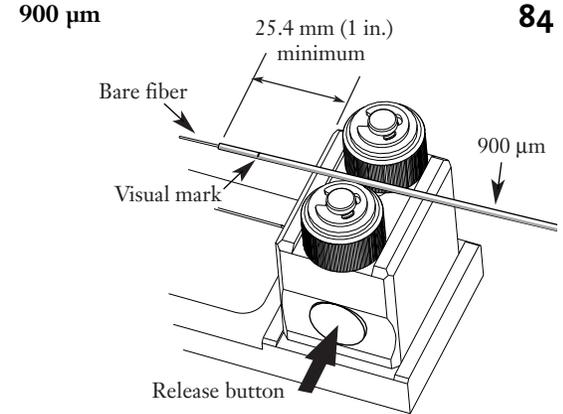

Figure 4-31
**4.8-1** Press in the release button on the UniCam tool's fiber index, and place the fiber between the rollers. Make sure the fiber is fully seated between the rollers (Figures 4-31 and 4-32) before removing your finger from the button.